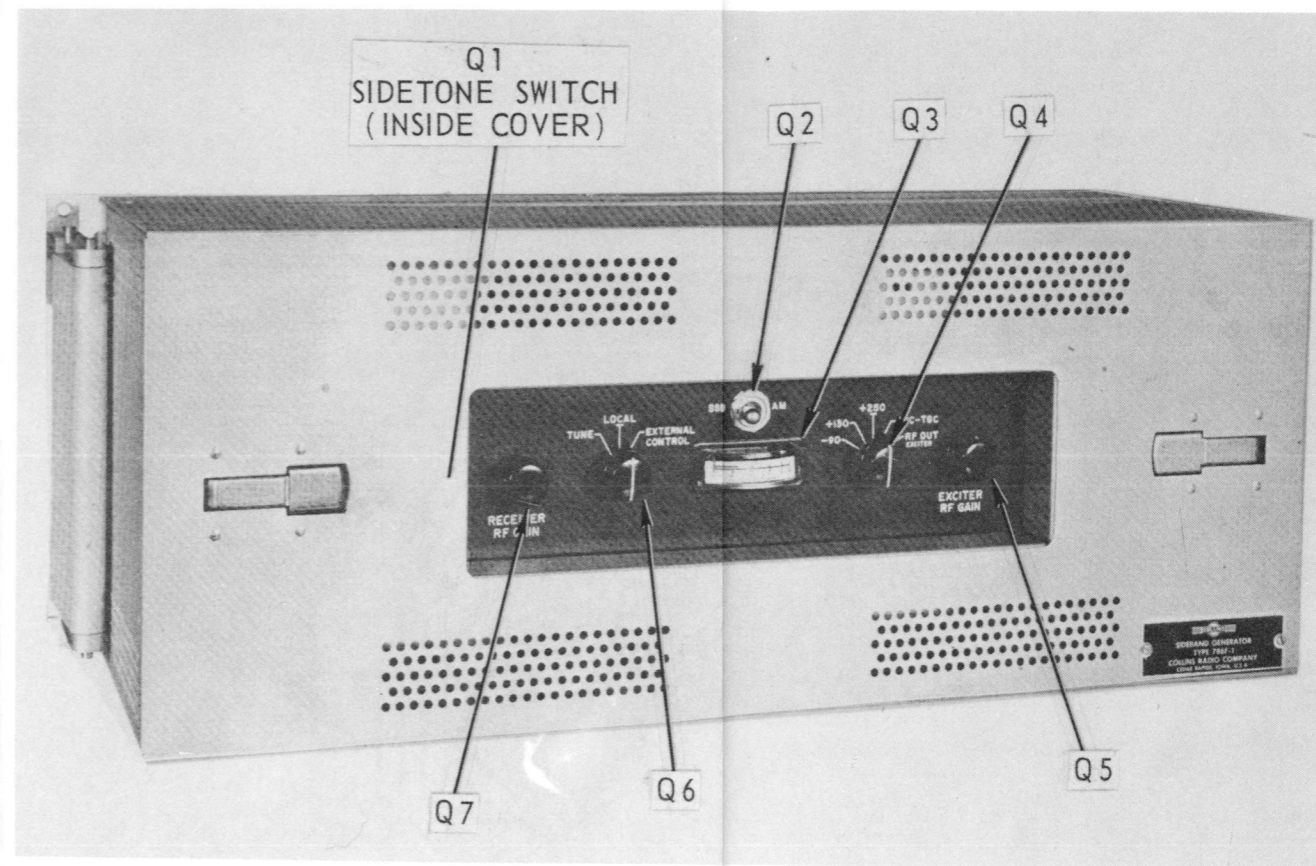

Figure 2-4. Amplifier-Converter-Modulator, AM-2064/URC Front View.
Use the amplifier-converter-modulator schematic, figure 5-112, servicing diagram, figure 4-21, and table 3-1 (volume 2) of NAVSHIPS 93285(B) to match the indicators and controls called out in figure 2-4 of this text (page 2-65) with their circuit and transceiver functions.